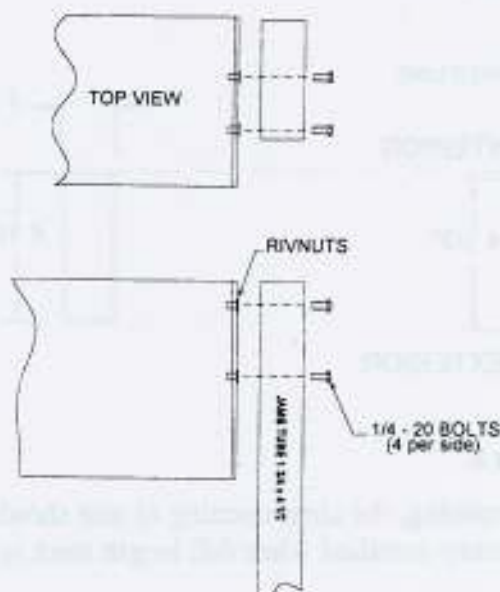

Figure 5
3. Position the jamb tubes on each end of the header and fasten them with the provided 1/4 - 20 x 1 inch bolts into the rivnuts in the jambs (See Figure 5). Refer to the label on the jamb for proper location.